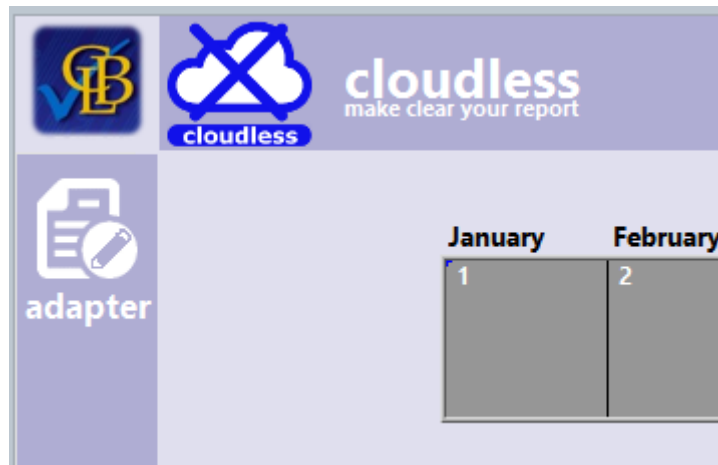
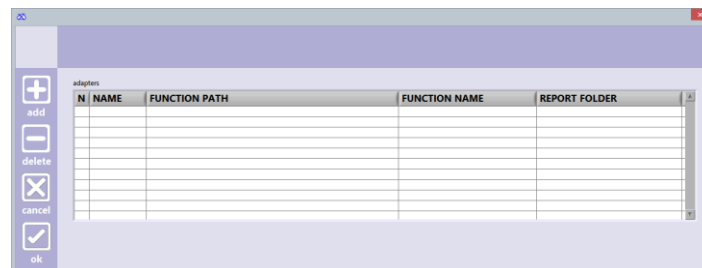
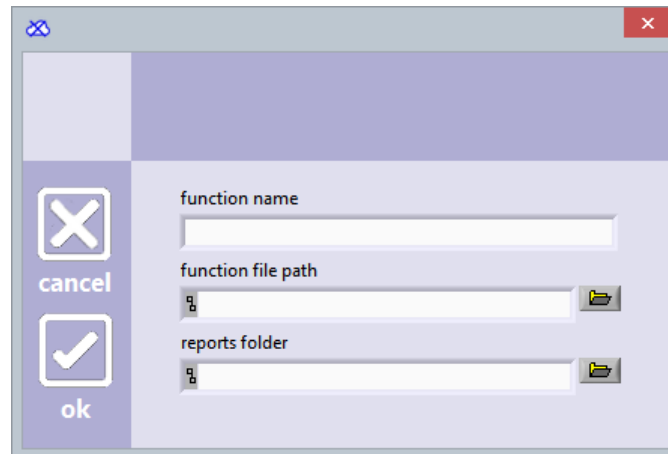

Figure 5: adapters configuration button
Figure 6: configured adapters list
Figure 7: adapter selection
2. After the cloudless start, press the adapters configuration button (Figure 5), at the left-top main window: the sub window of Figure 6 will appears on the display (it is normal that the list is empty after the cloudless installation; no adapters are pre-configured)
3. From the sub window of Figure 6 press the **add** button disposed at the left-top: the sub window of Figure 7 will appears on the display.
4. In the adapter selection sub window (Figure 7) perform the following operations:
5. From the sub window of Figure 7 press the **ok** button: the window of Figure 7 will close and the sub window of Figure 6 returns active.
7. Press the **ok** button of window of of Figure 6 to save the adapters configuration. The main page of cloudless becomes active and ready to start